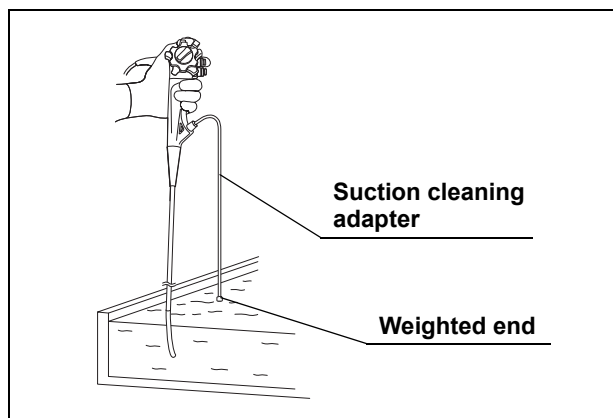

Figure 7.33
3. Attach the suction cleaning adapter to the cleaning adapter for instrument channel port (see Figures 7.33 and 7.34).